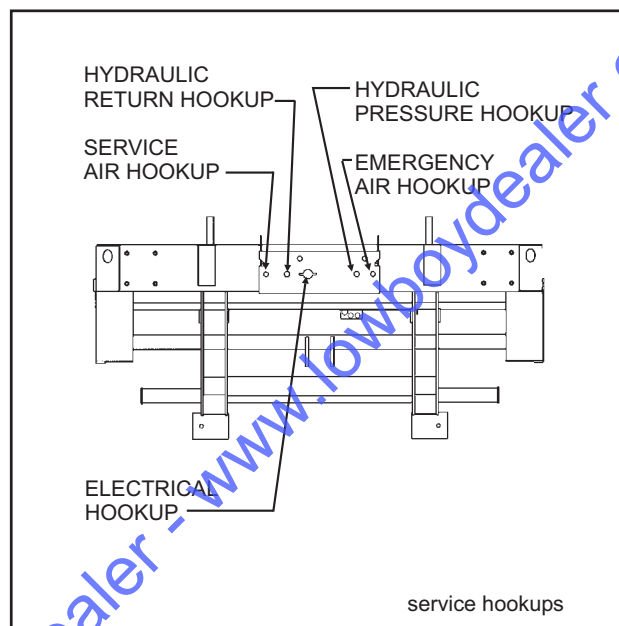

Figure 3-1 Service Hookups (Front View)
- 3-1.3** Connect the service and emergency air hoses of the tractor to their respective gladhand on the front of the semitrailer. The tractor's air hose couplings are then attached and locked to the appropriate gladhands; the **red emergency line** to the gladhand with the "**EMERGENCY**" tag, and the **blue service line** to the gladhand with the "**SERVICE**" tag (See Figure 3-1). Chock the semitrailer wheels before activating the semitrailer air supply valve in the tractor. Set the semitrailer brakes.
- 3-3.1** Connect the tractor 7-way electrical plug to the electrical receptacle on the front of the semitrailer (See Figure 3-1).